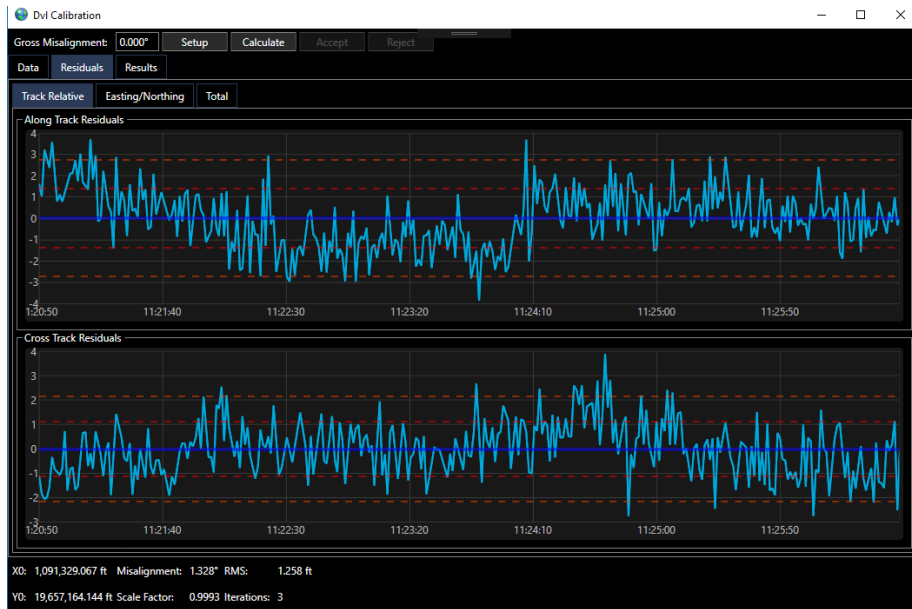

FIGURE 14-136 DVL CALIBRATION - TRACK RELATIVE RESIDUALS TAB
- Track Relative** residuals refer to data points relative to the trajectory of the vehicle, along track and cross track (see Figure 14-136)